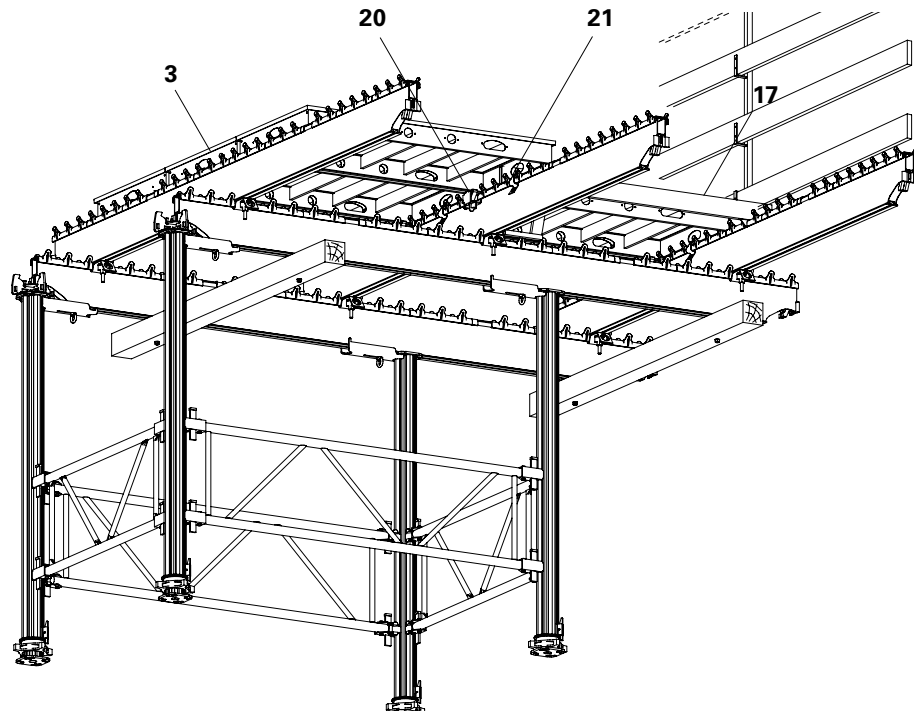

Fig. A9.05
2. The middle panels are additionally fixed to the front outer panels using two Panel Wedge Clamps SPKK (20) each.
4. Mount Guardrail Posts SGP and hand-rail boards as anti-fall protection. (Fig. A9.05)